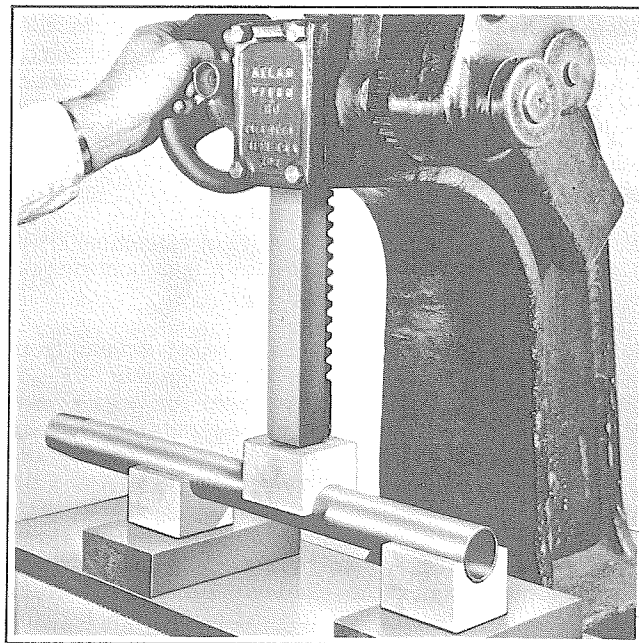

Figure 2F-26. Pressing High Point
STRAIGHTENING FORK STEM AND BRACKET ASSEMBLY (Fig. 2F-28)
Straightening a fork stem and bracket assembly not only requires a great deal of practice to become proficient, but also several special tools and fixtures, including an arbor press, surface plate or suitable heavy metal plate that is perfectly smooth, bending bar, four straightening blocks (W), two improvised steel gauging bars or legs 1-5/16 in. diameter x 12 in. length (X, Fig. 2F-29), two steel support blocks (Y), and several steel press blocks (Z).